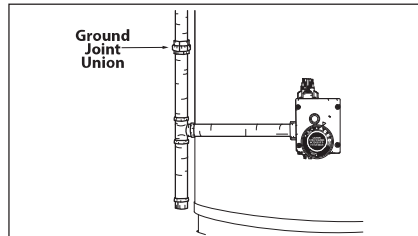

Figure 52 - Ground Joint Union
**6** Disconnect the ground joint union in the gas piping. Disconnect the remaining piping from the White Rogers thermostat gas control valve/thermostat (See Figure 52).